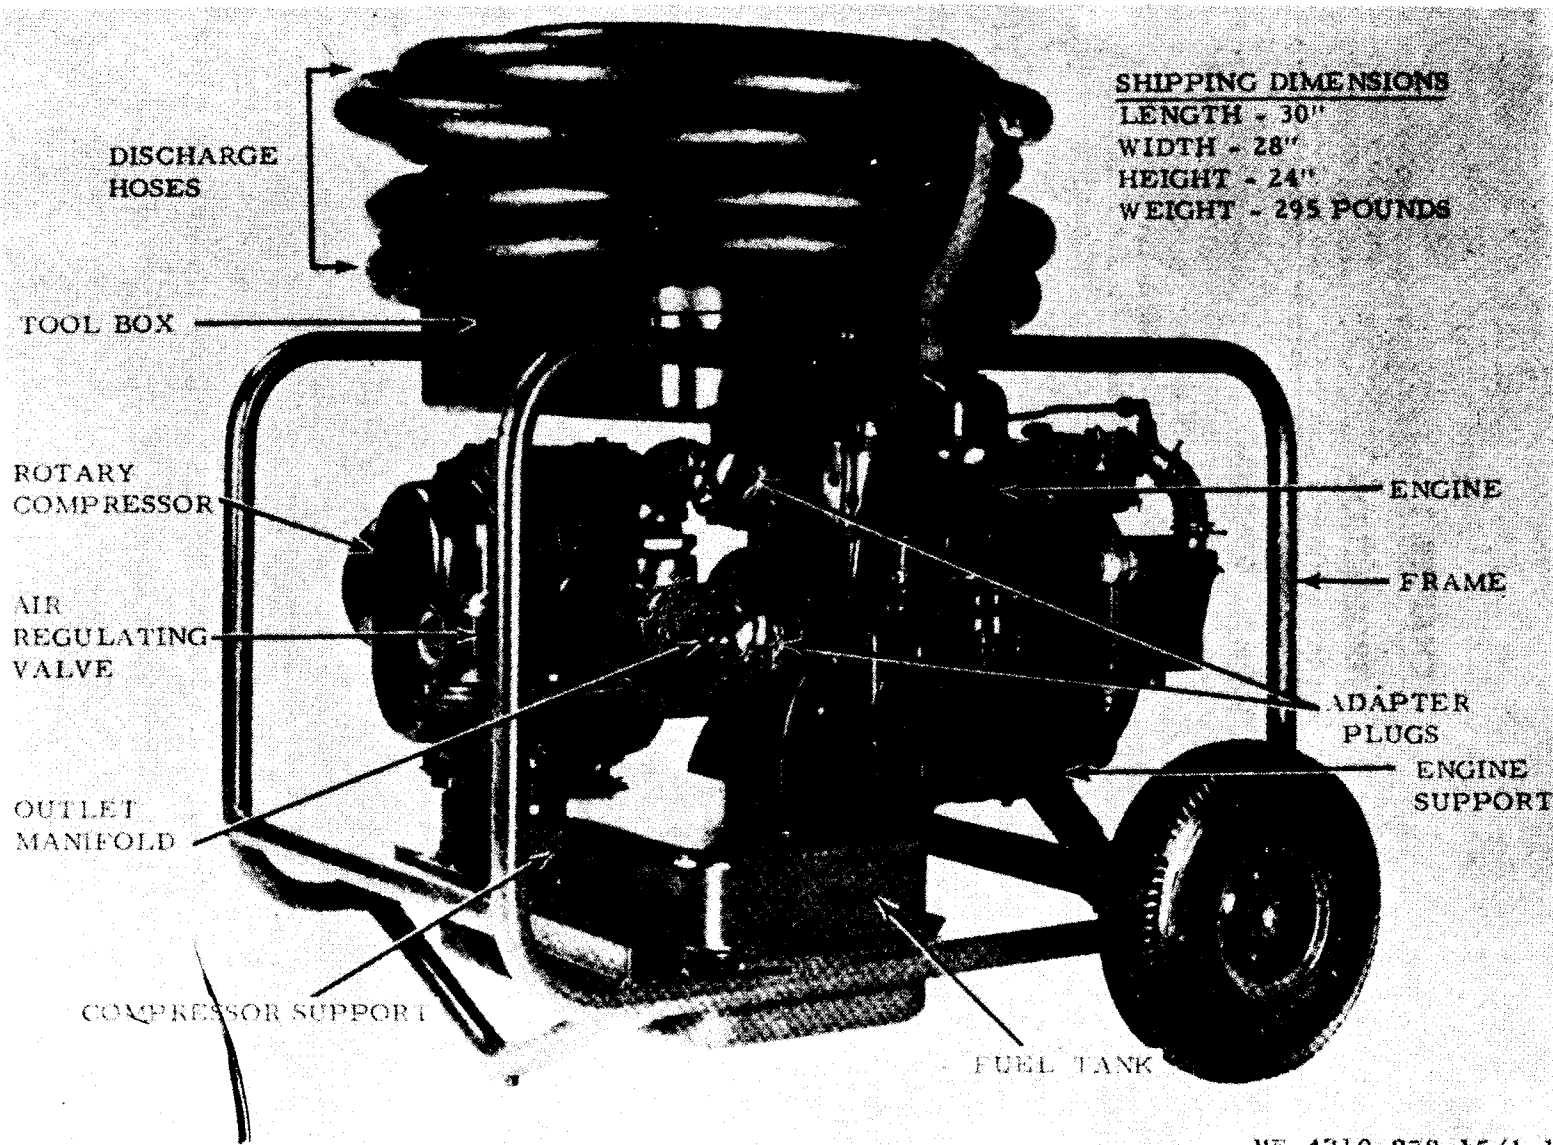

Figure 1-1. Rotary air compressor, left three-quarter view.
a. General. The engine-driven, rotary air compressor (figs. 1-1 and 1-2) is a portable, two wheel, frame-mounted unit. The two-cylinder Military Standard engine drives the rotary compressor through a flexible coupling.
(1) Place rotary compressor on a base that is solid and strong enough to support weight of unit. Refer to figure 1-1 for dimensions.
(2) Select a site where there will be sufficient space on all sides for servicing and operation of unit.
(3) Connect hoses to outlet adapters. If necessary, remove the inflator valve from the tool box and install on the end of the hose.
(4) If rotary compressor is to be operated within enclosed area, make certain that there is proper ventilation and exhaust gases are piped outside.
(1) Disconnect outlet hoses from outlet adapters, Stow hoses as shown in figure 1-1. Disconnect and stow inflator valves in tool box.
(2) Disconnect exhaust pipe extension if used.
(3) Remove plug from bottom of fuel tank and drain fuel into suitable container.
(4) Cover opening of outlet adapters with adapter plugs (fig. 1-1) to protect adapters and prevent foreign matter from entering rotary compressor.